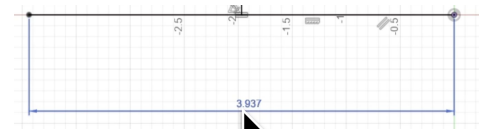

Figure 1.3
- Dimensions can also perform math (e.g., typing '2+2' gives 4 in). To edit a dimension, simply double-click the numerical value with the left mouse button (see Figure 1.3).